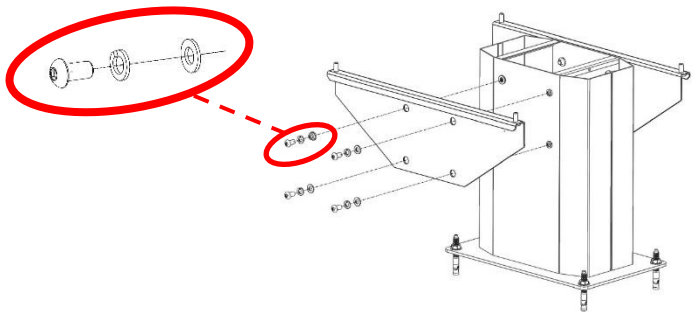

Figure 12—Attaching Pedestal's mounting plates
6. Attached mounting plate to front and back of pedestal using 8 sets of M10 socket button-head bolt, split washer, and flat washer provided (Figure 12), and then tighten the bolts with a torque setting of 389±10 in-lbs. (44±10 N-m).